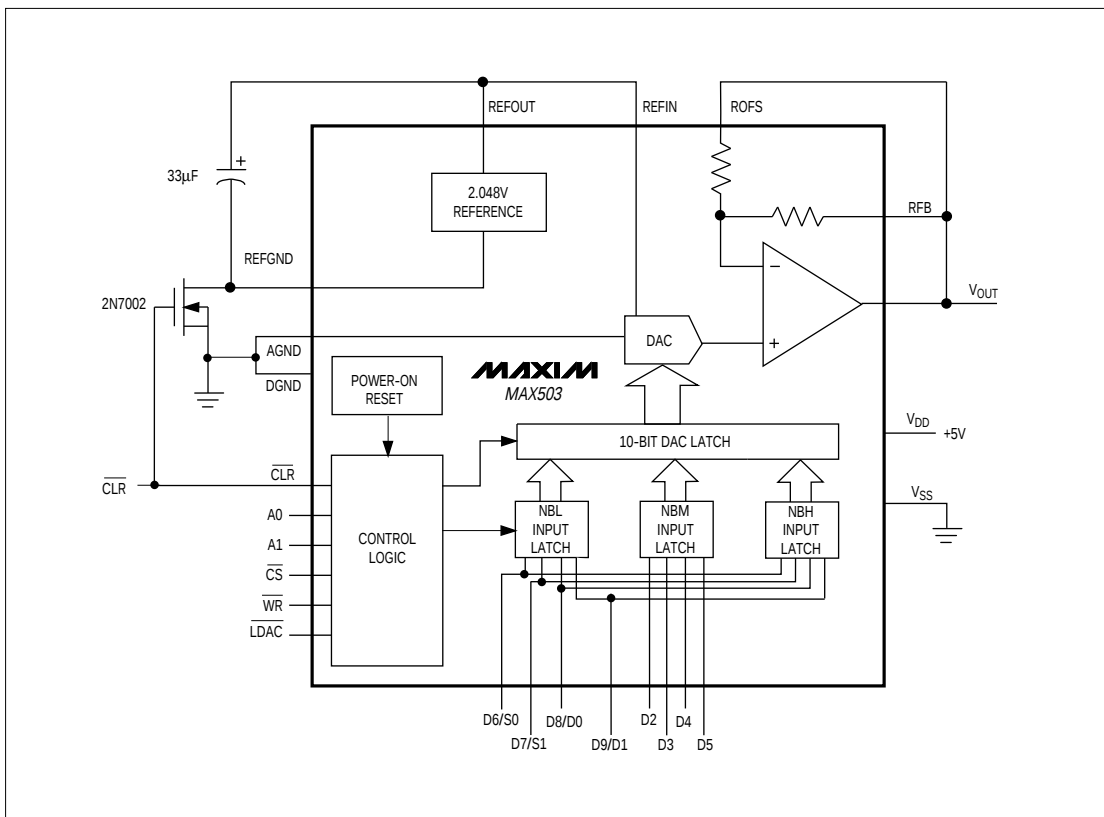

Figure 3. Low-Current Shutdown Mode
An additional 110µA of supply current can be saved when the internal reference is not used by connecting REFOUT to VDD. A low on-resistance N-channel FET, such as the 2N7002, can be used to turn off the internal reference to create a shutdown mode with minimum current drain (Figure 3). When CLR is high, the transistor pulls REFOUT to AGND and the reference and DAC operate normally. When CLR goes low, REFOUT is pulled up to VDD and the reference is shut down. At the same time, CLR resets the DAC register to all 0s, and the op-amp output goes to 0V for unity-gain and G = 2 modes. This reduces the total single-supply operating current from 250µA (400µA max) to typically 40µA in shutdown mode.
In order to provide hardware and software compatibility with the 12-bit MAX530, the MAX503 employs a 12-bit digital interface. As shown in Figure 3, there is actually a 12-bit input latch, and therefore 12 bits of data should be written. The two least significant bits (S1 and S0) are sub-LSB, and must always be 0s. Designed to interface with 4-bit, 8-bit, and 16-bit microprocessors ( $\mu\text{Ps}$ ), the MAX503 uses 8 data pins and double-buffered logic inputs to load data as  $4 + 4 + 4$  or  $8 + 4$ . The 12-bit DAC latch is updated simultaneously through the control signal LDAC. Signals A0, A1, WR, and CS select which input latches to update. The 12-bit data is broken down into nibbles (NB); NBL is the enable signal for the lowest 4 bits (S0, S1, D0, D1), NBM is the enable for the middle 4 bits, and NBH is the enable for the highest and most significant 4 bits. Table 2 lists the address decoding scheme.